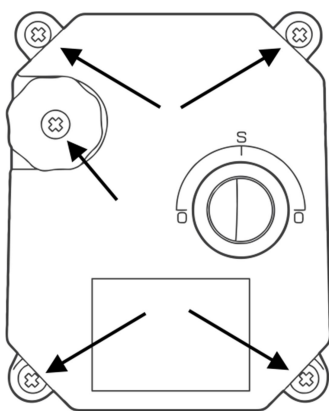
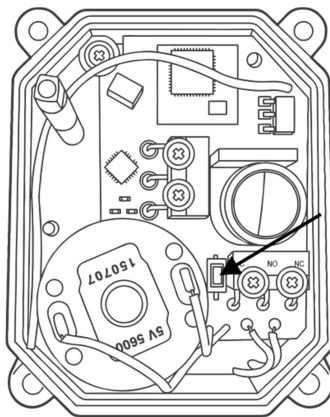

Figure 1
Figure 2
a. Open the top cover (Figure 1) by unscrewing 4 cover screw and 1 manual override screw. Then locate inclusion/exclusion button on PCB (Figure 2)
b. Set the controller into exclusion mode and press that button(shown in figure 2) once. You should see on controller interface that exclusion procedure was completed successfully. Next step is to set the controller into inclusion mode and press this inclusion/exclusion button again.
1. Open the top cover (Figure 1) by unscrewing 4 cover screw and 1 manual override screw, locate inclusion/exclusion button (Figure 2)